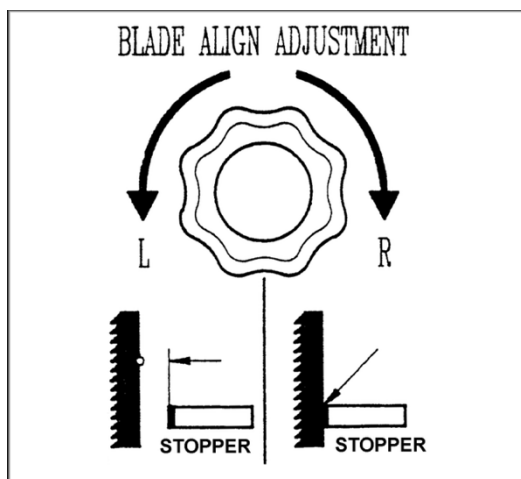
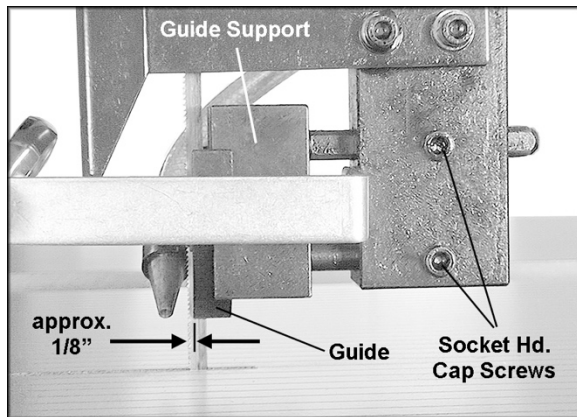

Figure 6
Figure 7
4. Loosen tension on the blade by turning the tension handwheel (Figure 6) to the left.
Rotate the blade tension handwheel to the right to increase tension on the blade or to the left to decrease tension on the blade. Initially, set the blade tension to correspond to the width of your blade, as indicated on the tension gauge (Figure 6). As you become familiar with the saw, you may find it necessary to adjust the blade tension from the initial setting, depending on the blade width and the material being worked.
6. If the blade does not track properly, rotate the blade tracking knob (Figure 6) clockwise to move the blade toward the front of the wheel (as viewed from the front of the saw) or counterclockwise to move the blade toward the rear of the wheel. NOTE: This will also move the blade away from or toward the stoppers on the blade guide assemblies, as shown in Figure 7.
For effective cutting and for safety's sake, there should be a minimum amount of space between the top of the workpiece and the bottom of the blade guides. Loosen the locking knob (see Figure 6) and rotate the handwheel (Figure 6) to raise or lower the guide post so that the guides clear the workpiece by about 3/16".